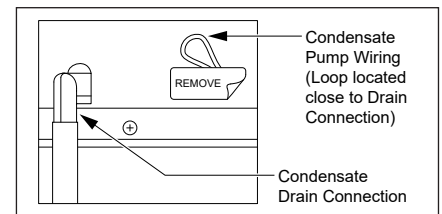
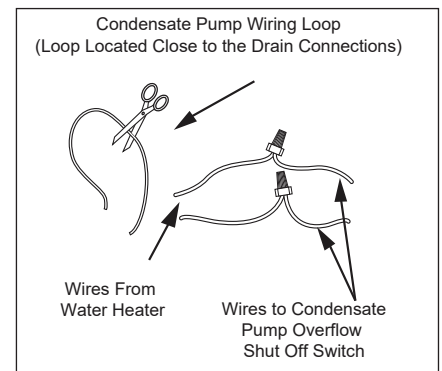

Figure 13 - Condensate Pump wiring.
Figure 14 - Wiring Loop for connection to Condensate Pump.
**1** Locate the wiring loop next to the condensate drain connection and remove label (Figure 13). Cut the loop and strip insulation off the two ends (Figure 14).